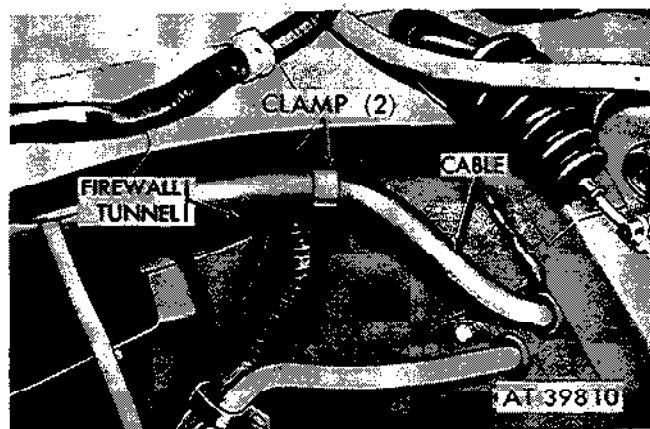

Figure 2-187. Remove clamps from firewall tunnel (M151 only).
(7) Remove two screws and lockwashers securing clamps and cable to right and left side of firewall tunnel. Remove clamps from cable (M151 only) (fig. 2-187).